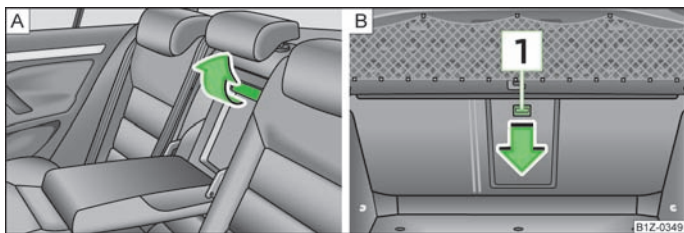

Fig. 81 Rear seats: Cover handle/luggage compartment: Unlock button
- Pull the handle upwards to the stop » Fig. 81 - [A] and fold the cover down.
- Push the unlock button [1] » Fig. 81 - [B] down and fold the cover (including the armrest) forwards.
Ensure that the armrest is always locked into place after closing. This is apparent as the red field above the unlocking button [1] » Fig. 81 - [B] is not visible from the luggage compartment.